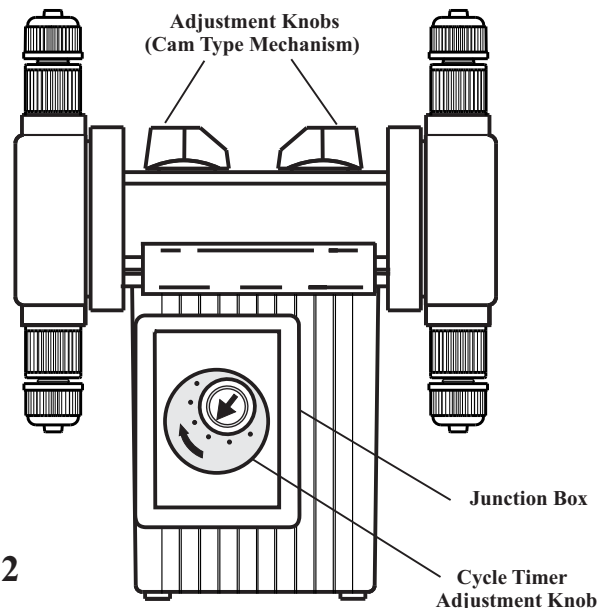

FIG. 5.2
5.2 **Adjusting the Pump Output - DELUXE Models (fig. 5.2)**